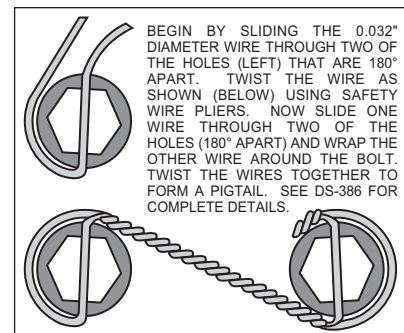

Figure 3. Safety Wire Diagram
•With the larger I.D. side of the rotor (7) facing away from the hat (8), bolt rotor (7) to the hat (8) through the backside of the rotor using washers (9) and bolts (10). Torque bolts (10) to 85 in-lb. Safety wire bolts (10) using standard 0.032 inch diameter stainless steel safety wire as shown in Figure 3. Please refer to Wilwood's data sheet DS-386 (available at www.wilwood.com/pdf/ds386.pdf) for complete safety wire installation instructions. Slide the rotor/hat assembly being sure to align the correct bolt pattern onto the hub. Install a couple of lug nuts (finger tighten) to keep the rotor/hat assembly in place while continuing with the installation.